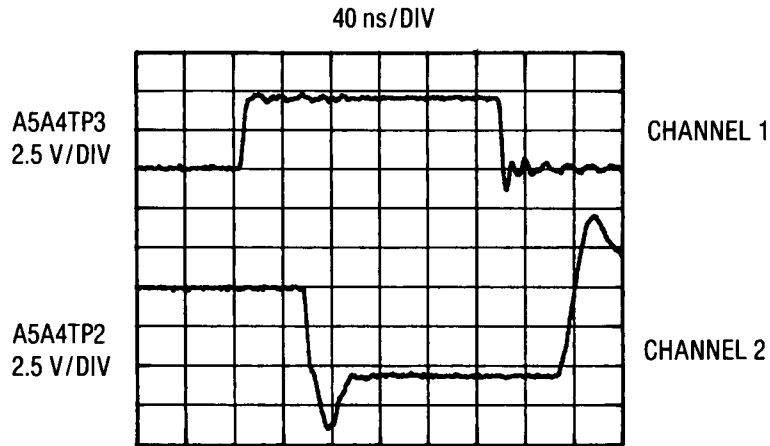

Figure 8-59. Pulse Driver Board, Input and Shunt Pulses
39. Connect channel 1 of the oscilloscope to A5A4TP3 and Channel 2 to A5A4TP2. Set Channel 1 display at top of screen. Set the oscilloscope controls as shown in Figure 8-59 and compare the display to the figure.